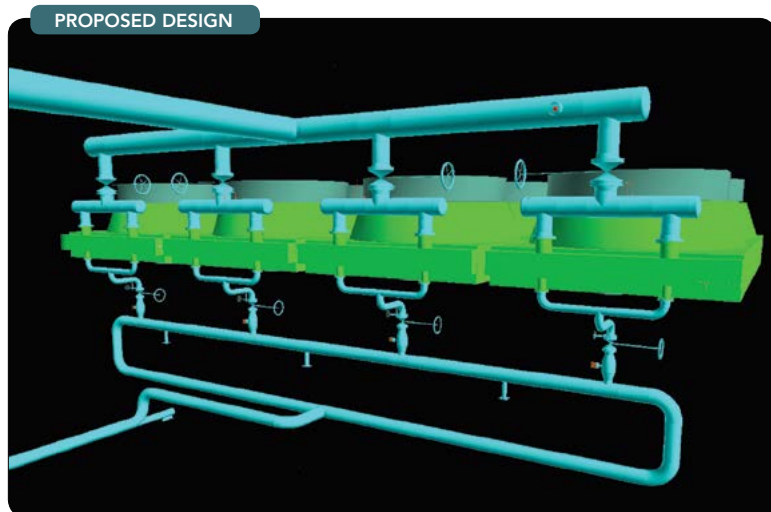

Figure 1. Both inlet and outlet piping have non-symmetrical layout.
**WHEN WE** build multiple parallel exchangers we assume an ideal world — each exchanger getting the same flow. One way of achieving equal flow to every exchanger is making inlet and outlet piping symmetrical. So, my first thought on seeing the piping layout proposed for connecting a tower overhead to an air-fin condenser (Figure 1) was “That’s not symmetrical.” Tower overhead enters in the large line from the upper left and goes to the condenser; condensate then leaves through the line to the lower left. Both the inlet and outlet piping clearly aren’t symmetrical, despite the designer being instructed to provide a symmetrical layout.